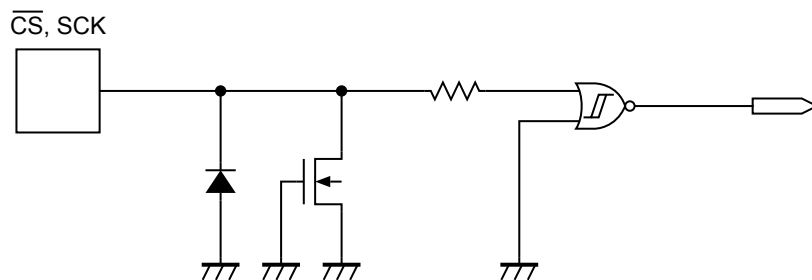
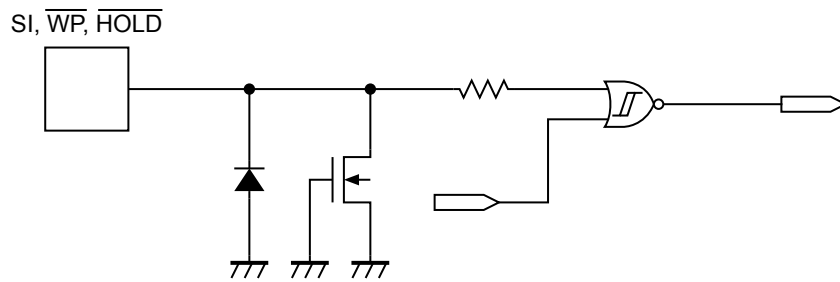

Figure 24  $\overline{CS}$ , SCK Pin
Figure 25 SI,  $\overline{WP}$ ,  $\overline{HOLD}$  Pin
**Figure 24** and **Figure 25** show the equivalent circuits of input pins in this IC. A pull-up and pull-down elements are not included in each input pin, pay attention not to set it in the floating state when you design.